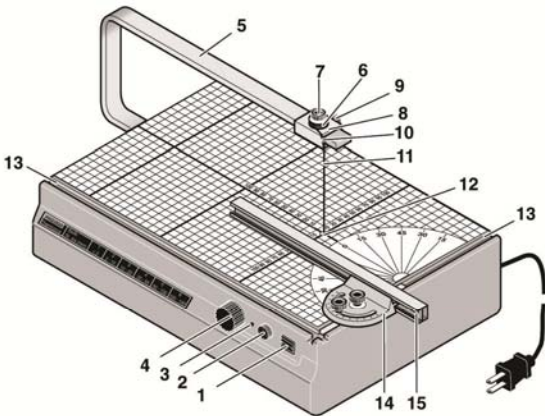
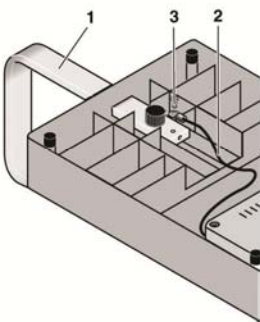

Fig. 1
Fig. 2
OVERALL VIEW (FIG 1)
Slide the spool carrier (8) off the bottom end of the over arm (5) in Fig. 1 by removing screw on arm.
Fit the over arm **1** (Fig. 2) underneath the device by using the enclosed knurled screw. Fasten the red wire **2** to the over arm with the screw **3**. Tighten the screw to ensure good electrical contact (10.5 volt low voltage). Slide the spool carrier **8** (Fig. 1) on to the arm and fasten it with the screw **9**. See OPERATION, Installing the cutting wire (Page 5).
3. Open the lower wire guide by turning the knurled screw **4** (Fig. 1).
4. Thread the wire approx. 2" (5 cm) into the lower wire guide **12** (Fig. 1).
5. Clamp the wire by turning the knurled screw **4** (Fig. 1).
6. Push the over arm **5** (Fig. 1) lightly downwards with your left hand, thread the wire through the guide slot **10** (Fig. 1) and fasten the wire spool **6** (Fig. 1) so that the wire is slightly tensioned.
8. Check that the wire is at right angle with work surface. Adjust, if necessary by sliding the spool carrier **8** (Fig. 1) or by bending the over arm right or left.
10. Switch on the device with the switch **1** (Fig. 1).
11. Adjust the temperature with the temperature adjustment knob **2** (Fig. 1). The best way to find the ideal temperature is to try different temperatures yourself. For simple, straightforward cuts you use a high temperature, for complicated shapes a lower temperature. Please note that too high temperatures will cause untidy edges.
Drill 0.25" (0.64 cm) diameter hole through the Styrofoam. Thread the cutting wire through the Styrofoam and into the lower guide. Clamp the wire by the knurled screw **4** (Fig. 1). Repeat steps in OPERATION, Installing the cutting wire (Page 5).